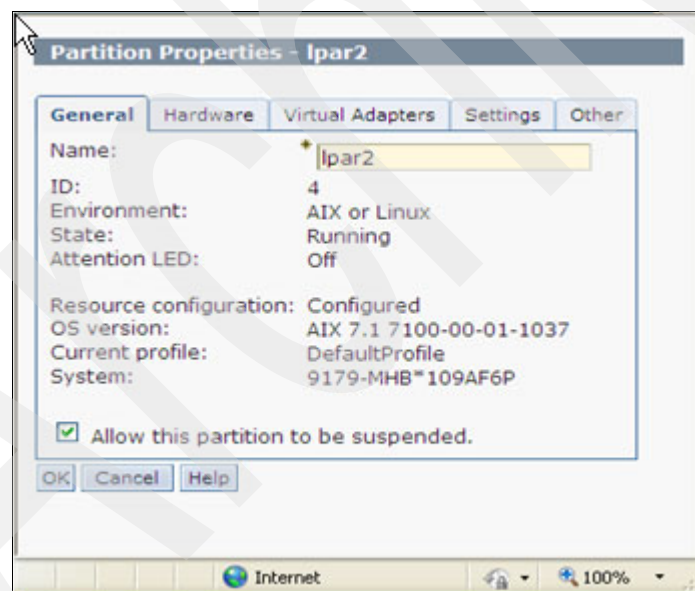

Figure 3-6 Suspend and resume option for the LPAR
2. Make sure that the LPAR is suspend-capable. Select **LPAR** → **Properties**. See Figure 3-6.